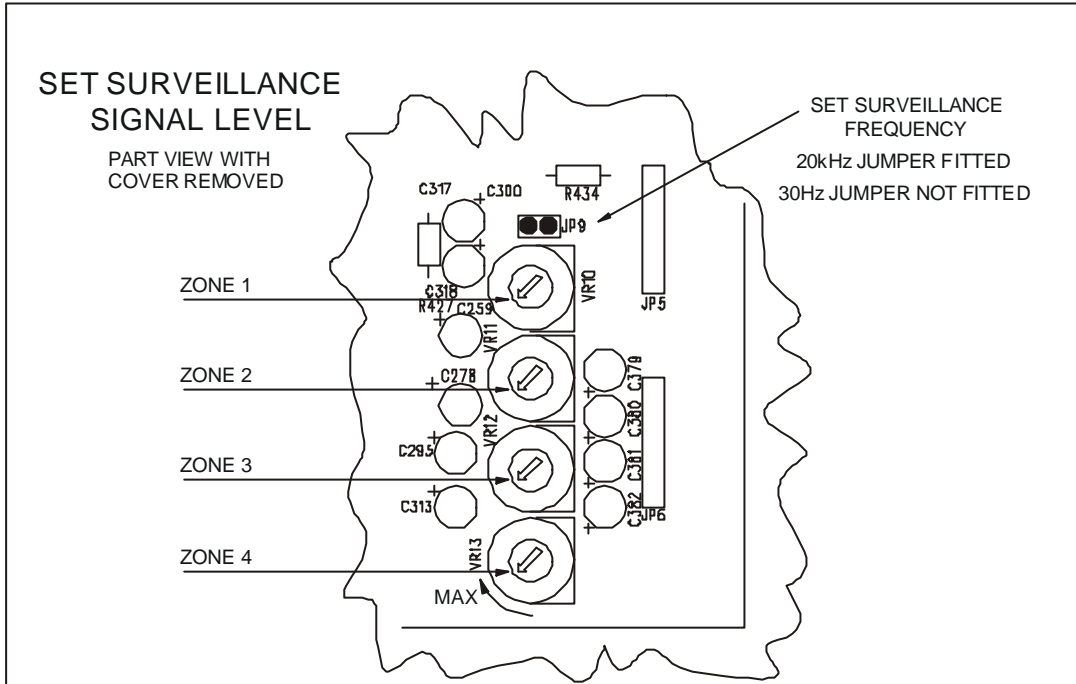

FIG 8
The Compact may be selected to either 30Hz or 20KHz when installed using the Jumper JP1, see Figure 8. 30Hz is suitable for systems employing horn loudspeakers or ceiling loudspeakers which have a poor low frequency response. Should speakers of good low frequency response be employed the 30Hz signal could be audible.
1. Select the required frequency (30 Hz or 20 kHz). See Figure 8.
4. Adjust each preset in turn for 10V loudspeaker line output to the associated zone. Figure 8.